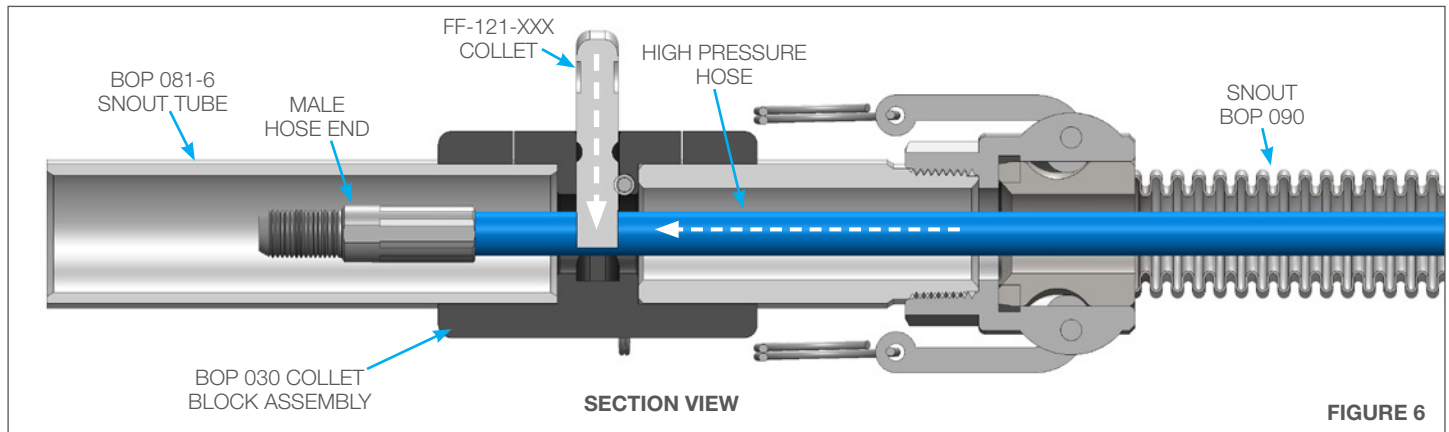

FIGURE 6
- Remove the Quick Release Pin and the Collet from the Collet Block Assembly. Push the Male Hose End past the Collet and reinsert the Collet and Quick Release Pin. Test the collet by pulling the hose in the reverse direction of installation to ensure the Male Hose End does not back out past the Collet. **(Figure 6)**
- Remove the Quick Release Pin and the Collet from the Collet Block Assembly. Push the Male Hose End past the Collet and reinsert the Collet and Quick Release Pin. Pull back on the hose to ensure the Male Hose End does not back out past the Collet. **(Figure 6)**